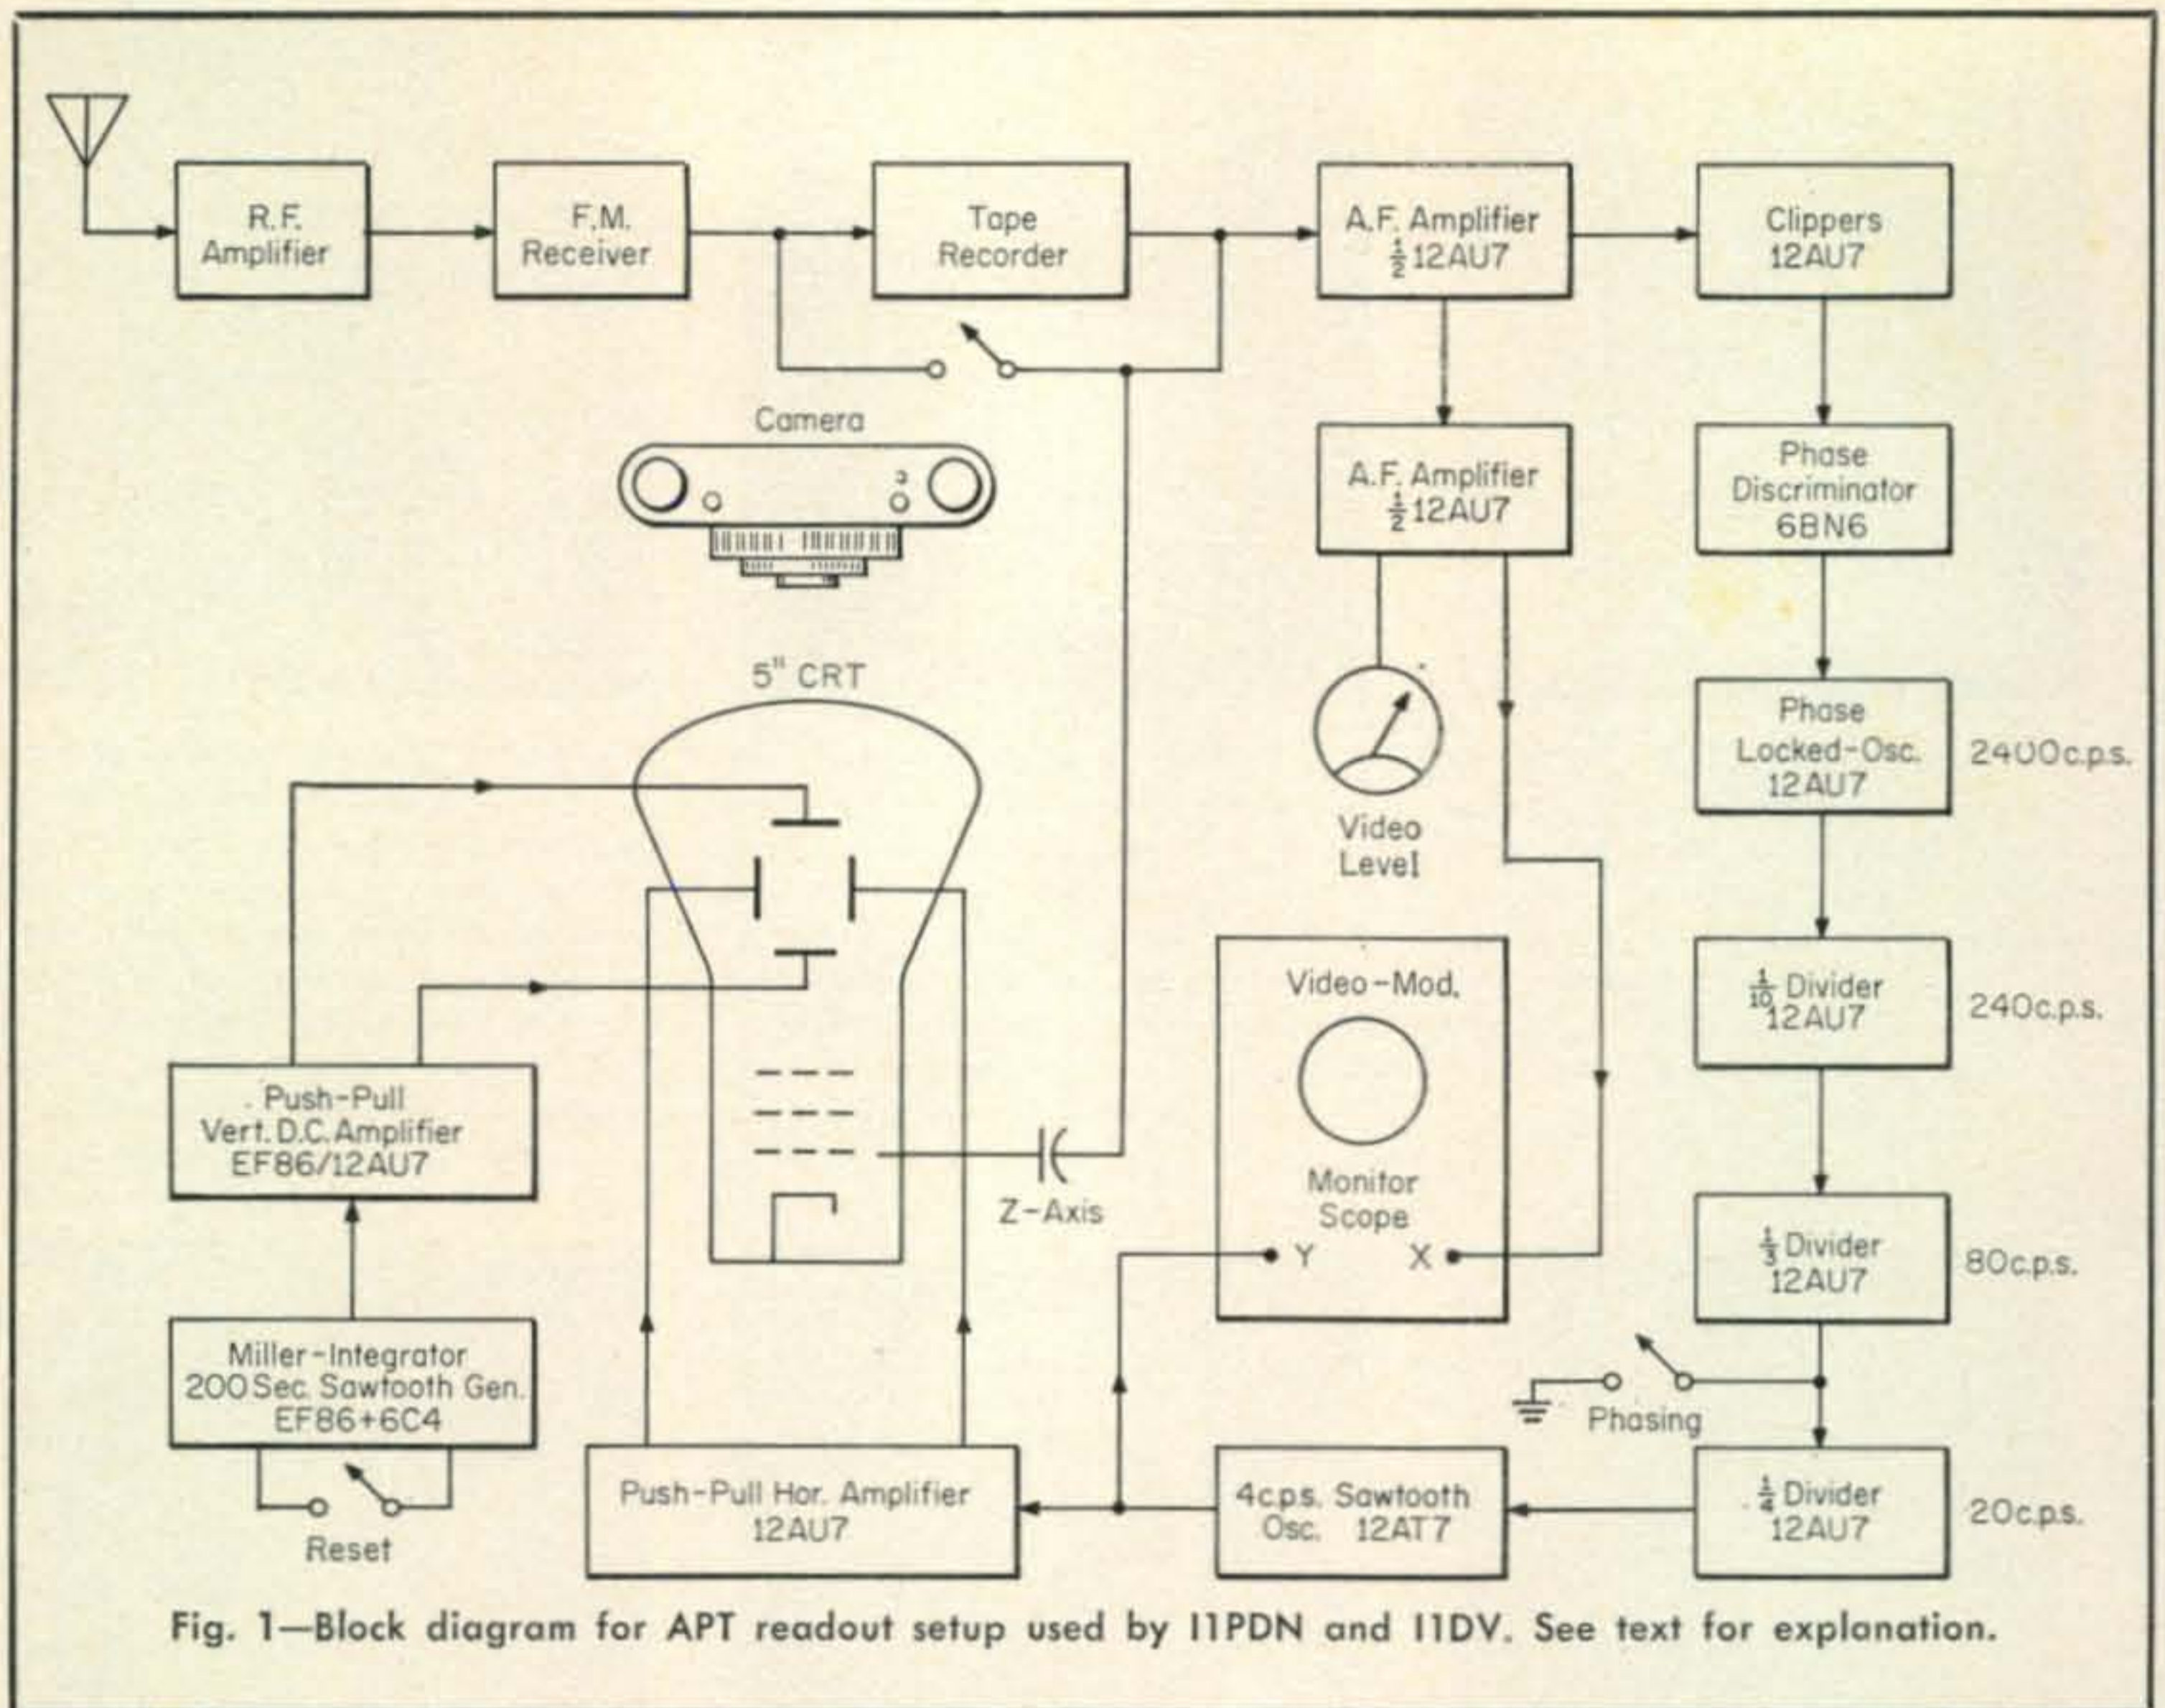

Fig. 1—Block diagram for APT readout setup used by I1PDN and I1DV. See text for explanation.
These shots are shown at figs. 1, 2 and 3. The picture at fig. 1 was taken at the peak of the storm over Italy. The location of various Italian cities, many of which were flooded by the storm,
Fig. 1—The storm of Nov. 4, 1966 that caused the historic and devastating flooding of Florence and Venice. Italian localities (not visible) are: (1) Venice; (2) Florence; (3) Rome; (4) Naples. Padova, the QTH of IIPDN and IIDV is about 20 miles west of Venice above (2).